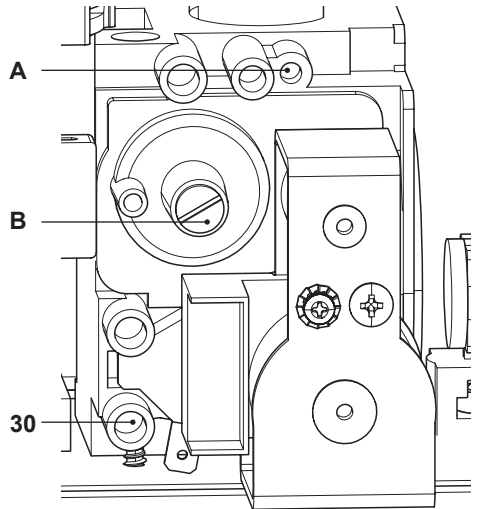

Fig. 7.9
- When the boiler is switched off (out of order), check the supply pressure by using the 30 point in Fig. 7.9 and compare the value read with that reported on the Gas supply pressure table in the "Technical Data" section (pag. 26 Advance Plus 25C ERP, pag. 30 Advance Plus 30C ERP and pag. 34 Advance Plus 35C ERP).
- Close well the pressure point 30 in Fig. 7.9.